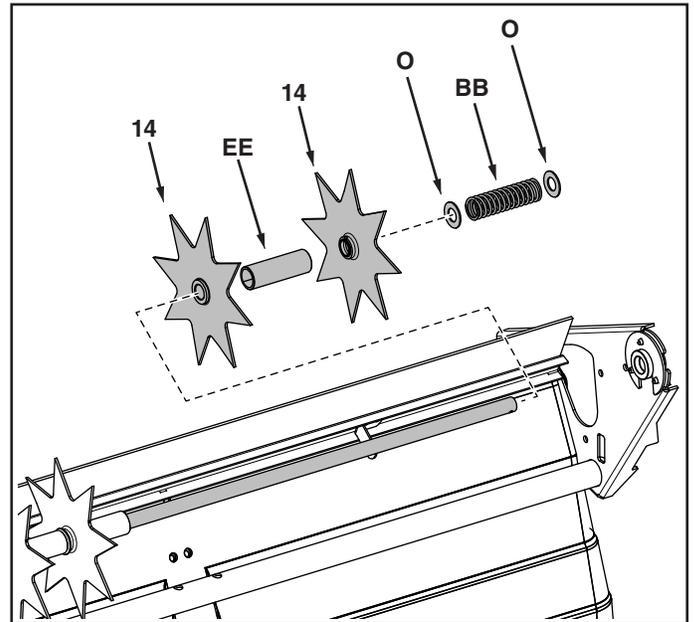

FIGURE 7
- Assemble two spike disks (14) and a 2.9" spacer (EE) onto the axle. The flat side of the disks should face away from the spacer. See figure 7.
- Assemble two 5/8" washers (O) and a spring (BB) onto the axle. See figure 7.